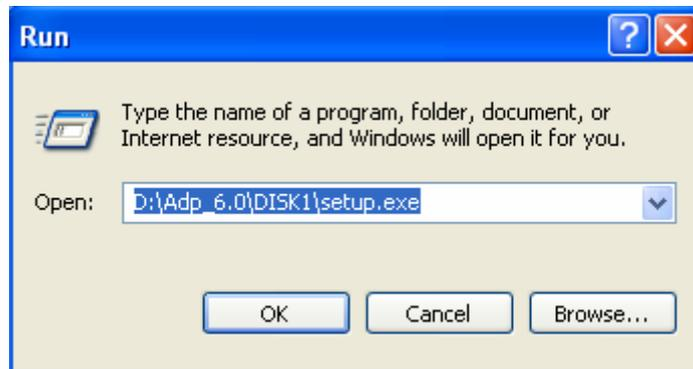

Figure 1. Run the ADP installation program “Setup.exe” in Window
2. Click [Start] and select [Run]. The [Run] dialog box should be appeared on the screen and select [Browse] to locate the install program “Setup.exe”. See Figure 1.